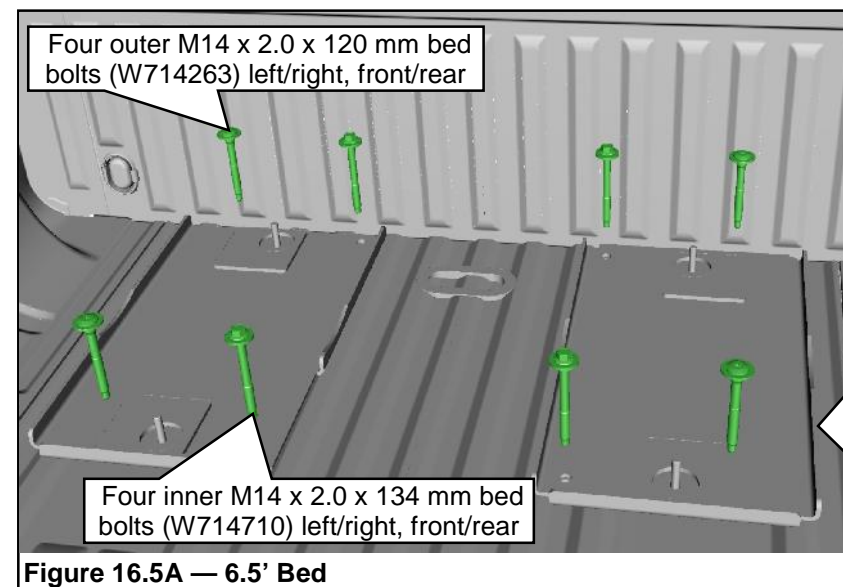
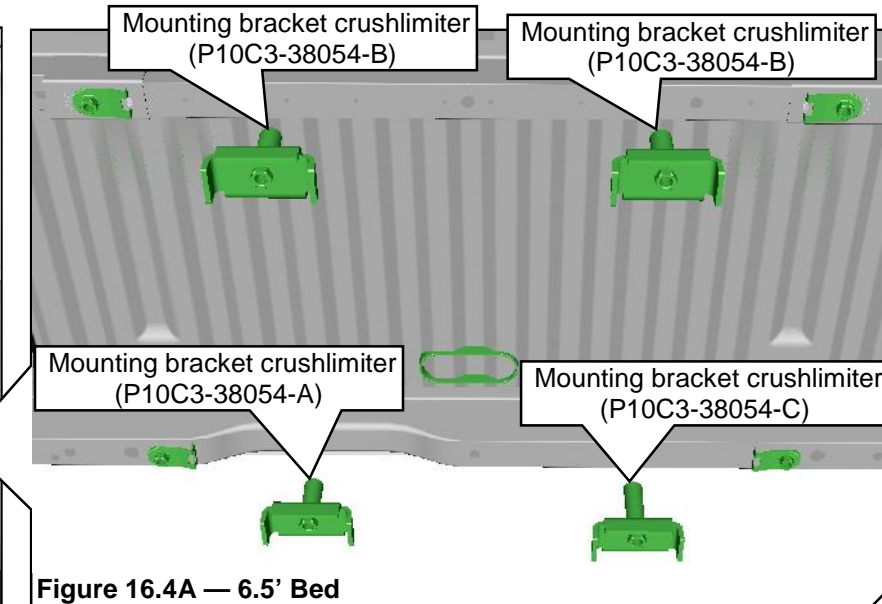

Figure 16.5A — 6.5' Bed
Figure 16.4A — 6.5' Bed
- With the help of an assistant, install four tank mounting bracket crushlimiter assemblies into the bottom of the bed crossmembers. **Figures 16.4A and 16.4B.**
- With the help of an assistant, install eight bolts through the top of the bed. **Figures 16.5A and 16.5B.** Thread into the four U-nuts in 6.5' bed (**Figure 16.4A**) and two U-nuts and two standard nuts in 8' bed (**Figure 16.4b**).